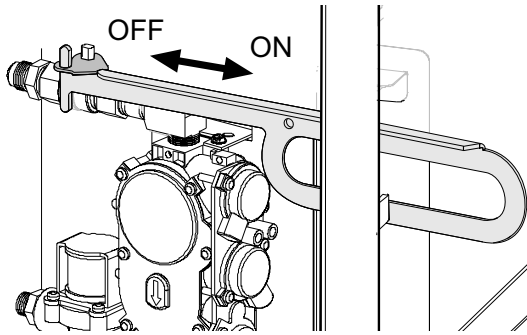

Figure 1. Insert the Latch Tool into the receiver hole to operate the gas cock.
1. Use the Latch Tool to shut off the gas supply by closing the gas cock. Fig. 1.